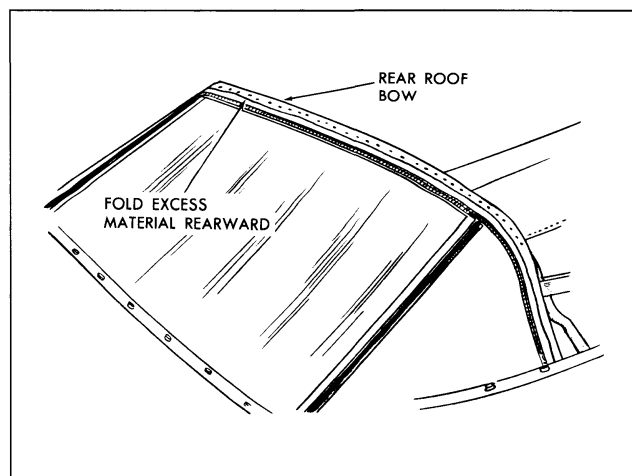

Fig. 21-27 Back Curtain Installation
15. Working from body center progressively outboard to right and left sides, tack back curtain upper valance to rear bow. Make sure all fullness has been drawn from curtain assembly. Fold excess back curtain upper valance material rearward and tack to rear bow (Fig. 21-27).